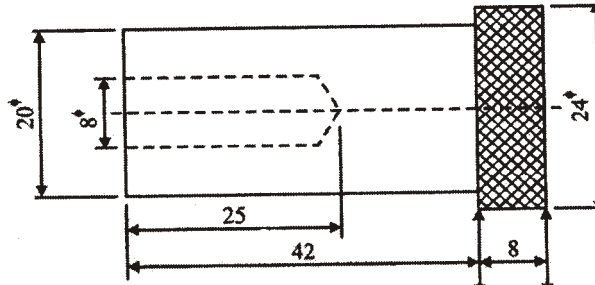

Fig.2.(All dimensions are in mm)
14. A mild steel shaft, shown in Fig. 2 is to be turned from a 24-mm dia bar. The complete machining consists of the following steps :